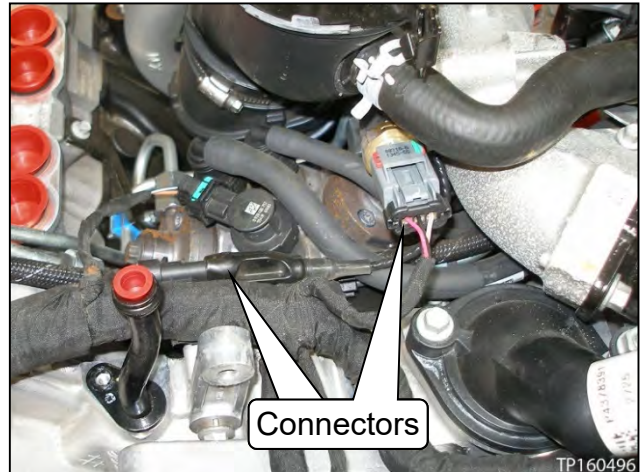

Figure 74
15. Connect the two (2) connectors (see Figure 74).